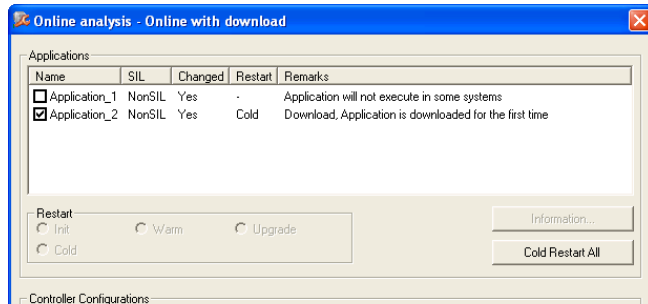

Figure 80. Connected applications to a controller. Only Application 2 will be downloaded.
2. Select the application to be downloaded. See the example in Figure 80.